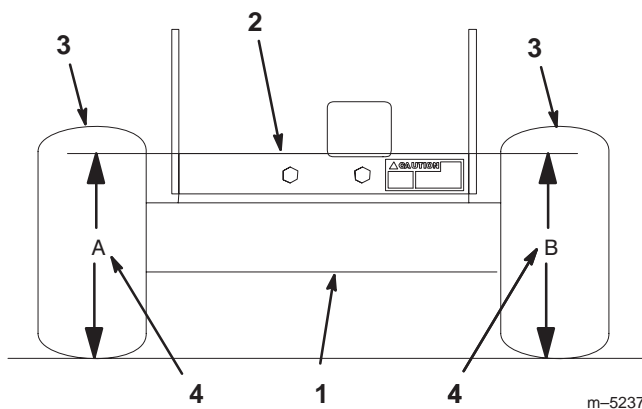

Figure 45
3. Measure engine deck height at location “A” (Fig. 45).
4. Measure engine deck height at location “B” (Fig. 45).